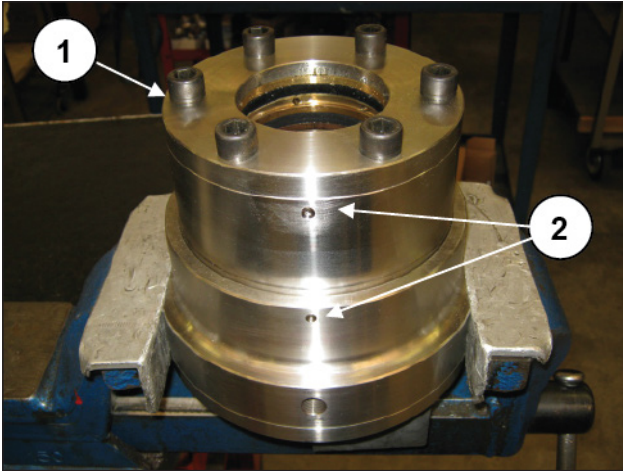
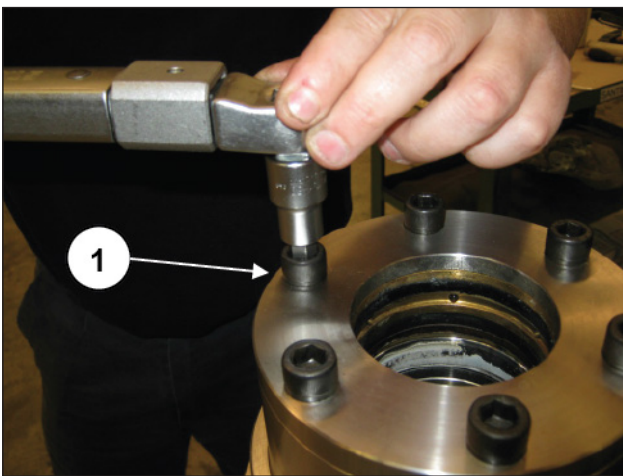

Fig. 229
Fig. 230
Install the sleeve to the support (pos. ①, Fig. 227), making sure that the O-rings stay in their seat with the punch marks aligned (pos. ②, Fig. 229), then mount and secure the ring supporting the gaskets (pos. ①, Fig. 228).
After positioning the fixing screws of the seals support ring (pos. ①, Fig. 229), tighten them using a torque wrench (pos. ①, Fig. 230), as described in heading 3.